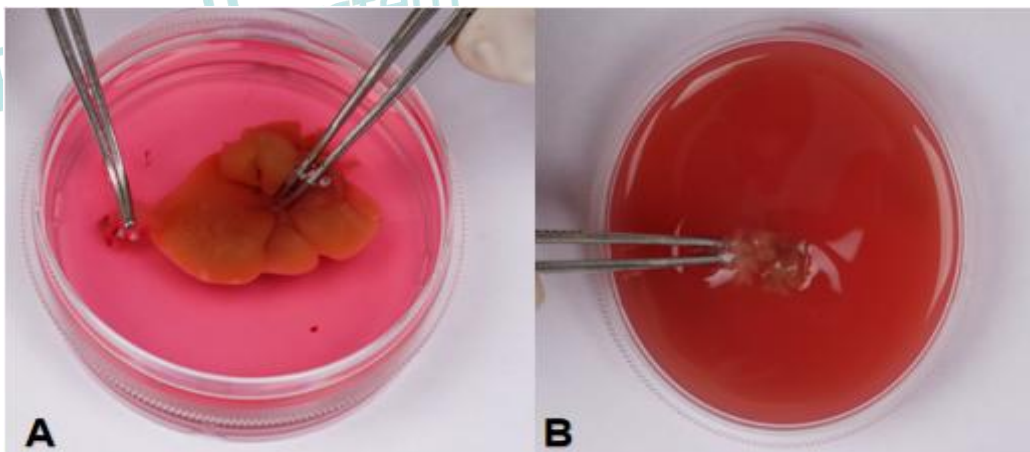

Figure 4. Treatment of the liver in vitro
- 4) Cut the vascular and connective tissue connected to the liver along the diaphragm. Gently lift the liver tissue with Curved Forceps 2, cut off the remaining connecting tissue. Transfer the intact liver tissue to a pre-prepared culture dish containing Specialized Washing Solution For Mouse Hepatic Parenchymal Cells. Secure the liver tissue at the junction of the liver lobes using Curved Forceps 2 in a super clean bench. After removing the gallbladder with Curved Forceps 3, gently peel off the hepatic capsule. Hepatic parenchymal cells can be seen flowing out like quicksand, when the tissue is gently shaken. The incomplete dispersed parts can be gently separated with forceps and dispersed into the cell washing solution (Figure 4).